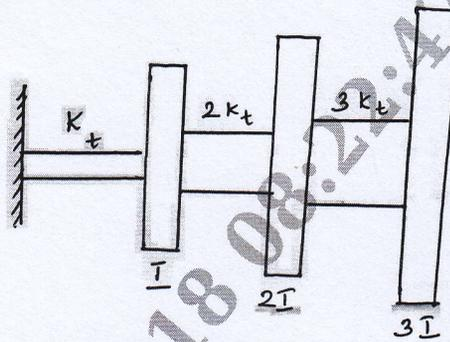

Fig.Q8(a)
- 8 a. A torsional vibrating system is shown in Fig.Q8(a). Determine the first two natural frequencies by Holzer's method.